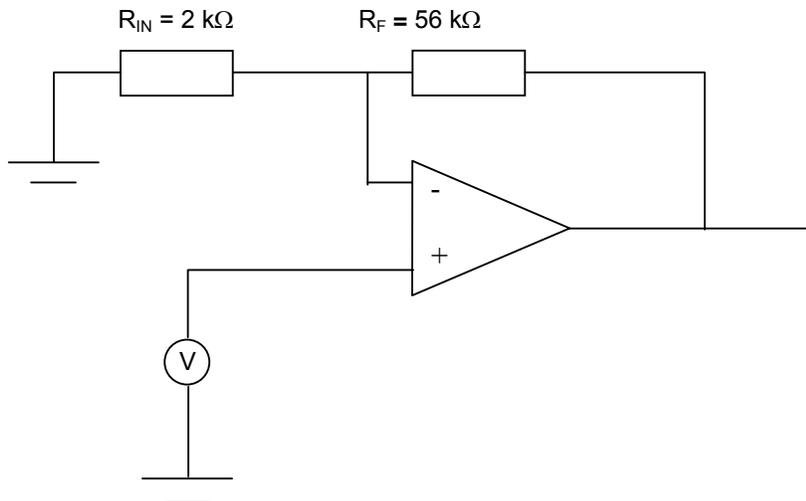

FIGURE 7.2 – NON-INVERTING AMPLIFIER CIRCUIT (3)
7.3 Calculate the gain of the following amplifier shown in FIGURE 7.2.